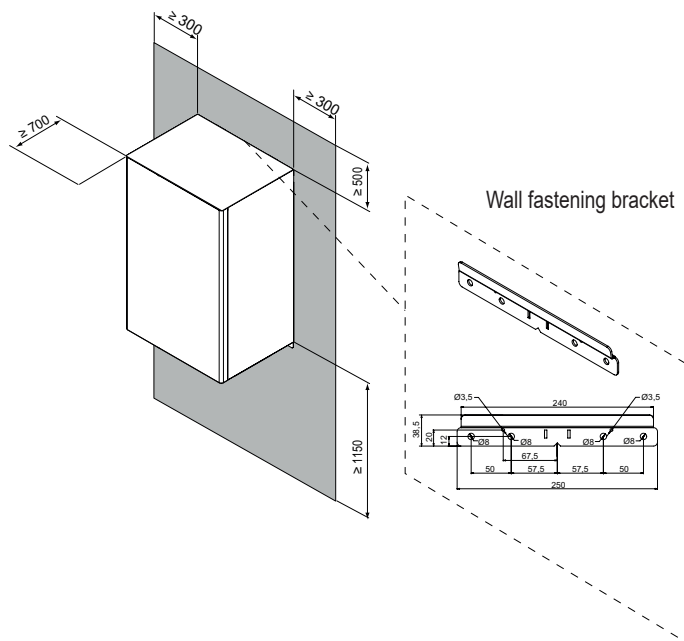

fig. 12 - minimum operating area for indoor unit
- The space around the unit is adequate for serving, see fig. 12.